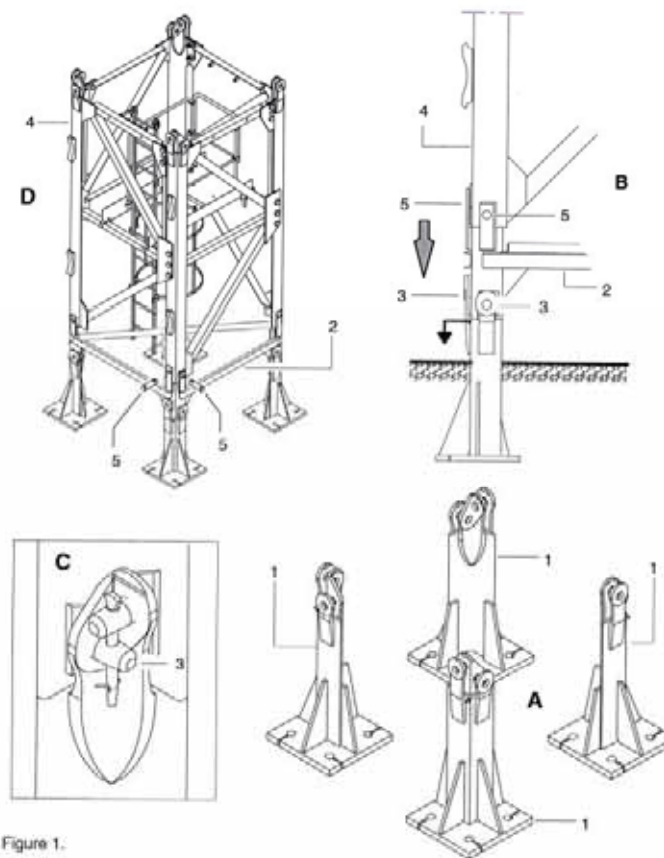

Figure 1.
- Outside or inside the ditch, arrange the fixing angles (1) by observing their distance (Detail A – Figure 1).
- Engage the template (2) into the 4 fixing angles; lower it until it comes to rest onto the fishplates (Detail B – Figure 1). Pin-connect the template using 4 x 2 shafts (3), drifts and split-pins (Detail C).
- Engage the standard mast section (4) into the fishplates of the fixing angles (Detail D – Figure 1). Connect this mast section using 4 x 2 shafts (5), insert locking pins and split-pin them, see (Detail D – Figure 1).